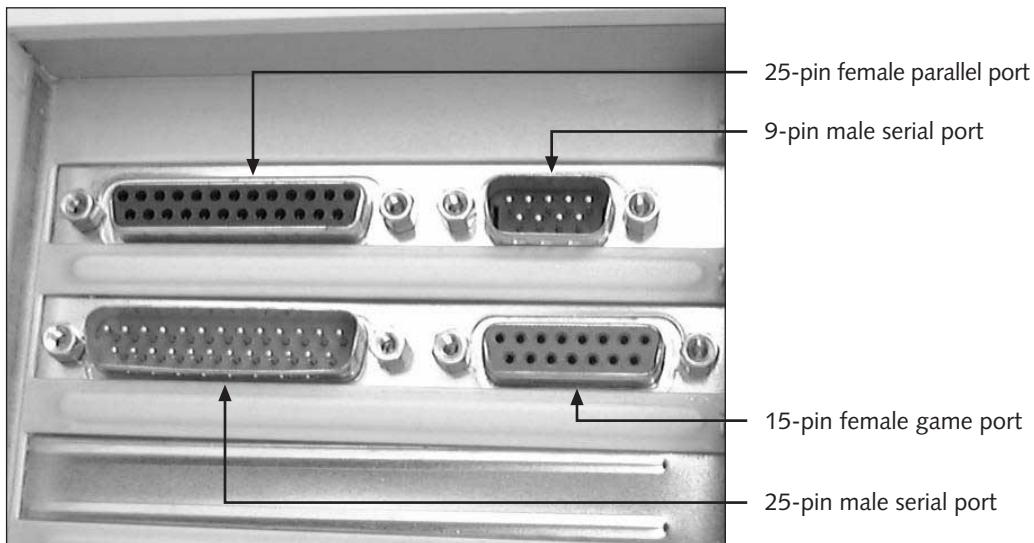

Figure 9-6 Serial, parallel, and game ports
A+^{CORE} **1.4, 4.3** **Serial ports** transmit data in single file, or serially. You can identify these ports on the back of a PC case by (1) counting the pins and (2) determining if the port is male or female. Figure 9-6 shows serial ports, a parallel port, and a game port, for comparison. On the top is one 25-pin female parallel port and one 9-pin male serial port. On the bottom is one 25-pin male serial port and a 15-pin game port. Serial ports are sometimes called DB-9 and DB-25 connectors. DB stands for data bus and refers to the number of pins on the connector. Serial ports are almost always male ports, and parallel ports are almost always female ports.